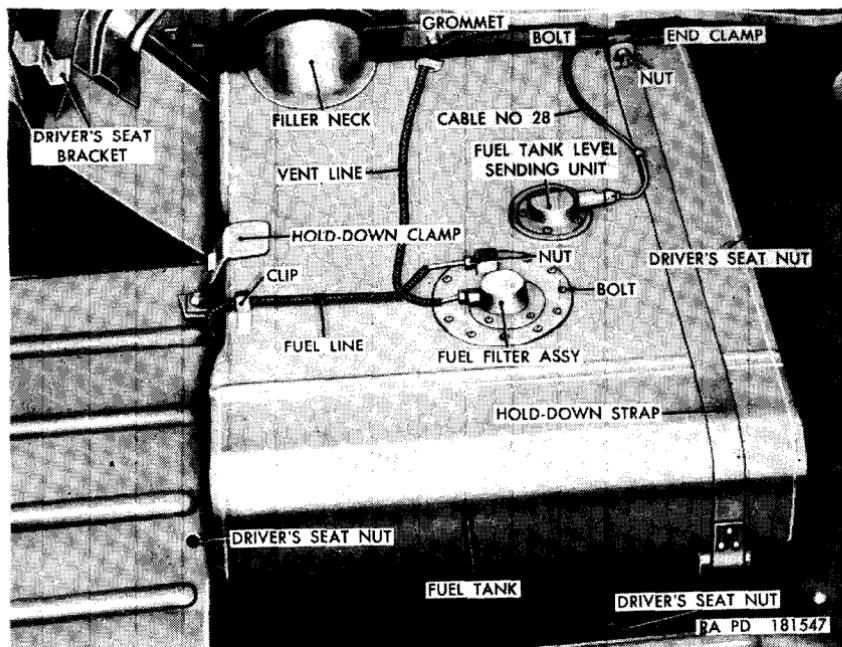

Figure 50. Fuel tank, fuel filter assembly, and fuel tank level sending unit—seat removed.
(fig. 50)
- (1) *Removal.* Unscrew the nut on the rear of the fuel line (B) from the elbow (D). Unscrew the nut on the front end of the fuel line (fig. 50) from the fuel filter assembly. Bend the clip (fig. 50) securing the fuel line to the tank and remove the line by pulling it through the floor pan from the top.
- (2) *Installation.* Position the fuel line (fig. 50) in the vehicle by inserting through the floor pan from the top. Screw the nut on the front end of the line into the fuel filter assembly, and bend the clip on the top of the tank down over the fuel line. Screw the nut on the rear end of the fuel line (B) onto the elbow (D). On early production vehicles, install fuel and vent lines as described in (a) through (c) below, to prevent chafing by the driver's seat frame support gusset.